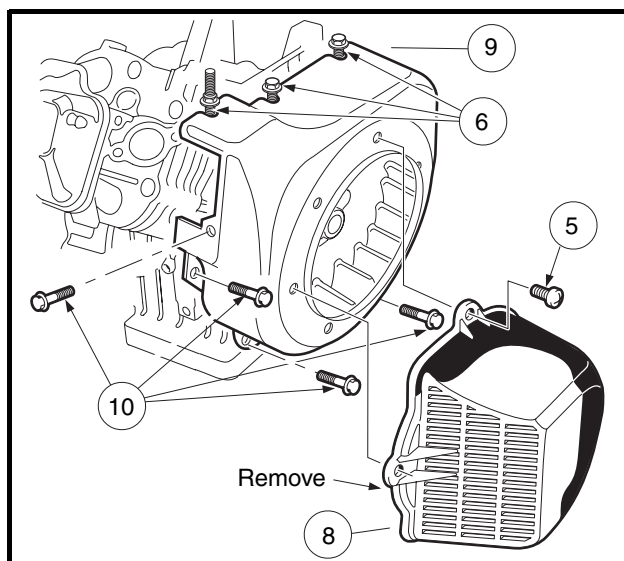
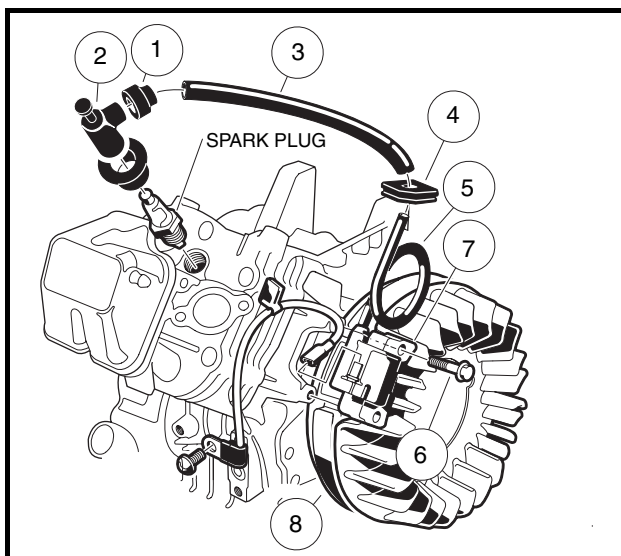
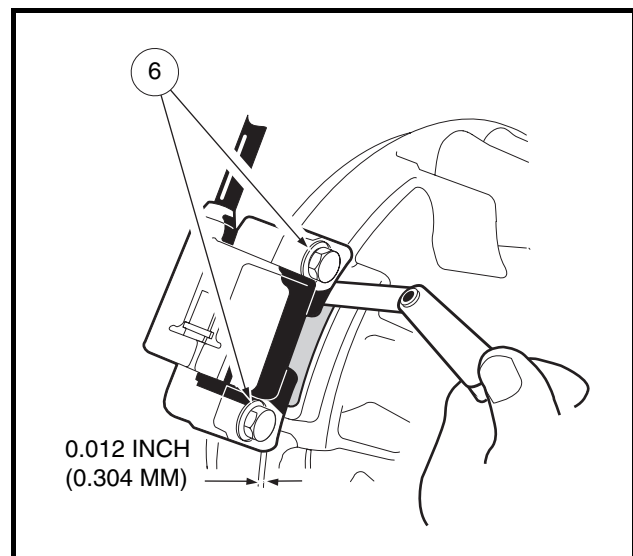

Figure 12-24 Remove Fan Housing
Figure 12-26 Clean Grommet
Figure 12-27 Mount Ignition Coil Using Feeler Gauge
7. Remove the pan head bolts (5) securing the fan shroud (8) to the fan housing (9) (**Figure 12-24, Page 12-24**).
8. Loosen, but do not remove, three bolts (6) attaching the fan housing as shown.
9. Remove the remaining four bolts (10) attaching the fan housing (**Figure 12-24, Page 12-24**), then while opening the housing, detach the spark plug wire grommet (4) from the housing (**Figure 12-26, Page 12-25**).
1. Remove the rubber gasket (1) on the plug cap (2) by rolling back the gasket onto the spark plug wire.
2. Remove the cap (2) from the wire by turning the cap counterclockwise three or four revolutions while gently pulling it off the wire (**Figure 12-26, Page 12-25**).
3. Remove the gasket (1) and protector tube (3) from the old coil. **See following NOTE.**
4. Remove the grommet (4) from the old spark plug wire. Clean the grommet and place it on the new spark plug wire (5).
5. Install the protector tube (3) onto the new wire (**Figure 12-26, Page 12-25**).
6. Slide the gasket (1) onto the end of the new spark plug wire.
7. Install the cap (2) on the new coil spark plug wire by rotating it clockwise three or four revolutions while applying light pressure on the cap.
8. Install the gasket (1) on the cap (2).
9. Position the ignition coil (7) onto the cast mounting bosses on the engine crankcase and tighten the two mounting bolts (6) finger-tight.
10. Rotate the flywheel (8) until the magnet is positioned directly under the ignition coil. Use a 0.012 inch (0.304 mm) bronze feeler gauge to set the air gap between the ignition coil and the flywheel magnet. Tighten the two mounting bolts (6) to 30 in-lb (3.4 N·m) (**Figure 12-27, Page 12-25**).
13. When installing fan housing, make sure the top front corner of the housing is above the upper cylinder shroud. The front edge of the fan housing should be behind the lower cylinder shroud. Align the slots in the housing with the flanged bolts (6) loosened earlier (**Figure 12-24, Page 12-24**).
14. Install the four remaining flanged bolts (10) that secure the fan housing to the engine crankcase. Tighten all seven mounting bolts (6) and (10) to 90 in-lb (10.2 N·m).
15. Install the fan shroud with four pan-head bolts (5) and tighten to 50 in-lb (5.7 N·m).